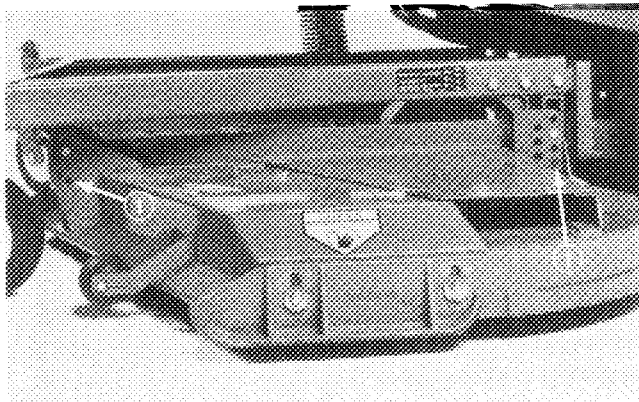

Figure 33
2. Raise height-of-cut to 4 in. (102 mm) position (Fig. 33); refer to Adjusting Height-Of-Cut, page 9.